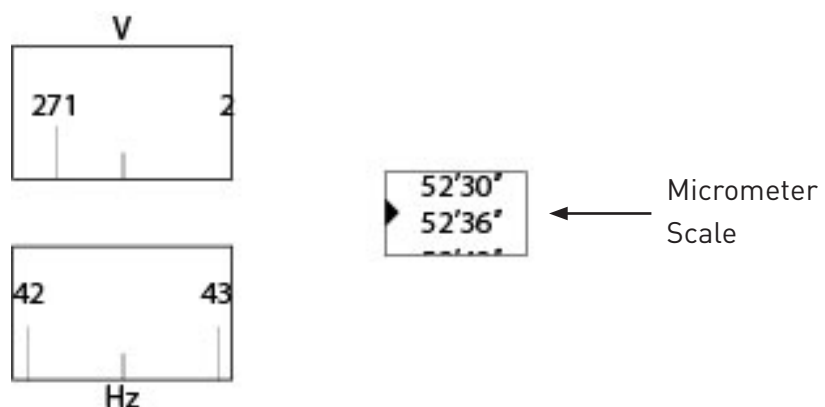

Figure 7 Example of likely position of circle graduation lines.
1. Direct the theodolite at the reference target or a null field position. After aligning in the direction of interest the circle graduation lines are unlikely to be exactly in the middle of the double line index, and will more likely resemble those displayed in Figure 7, below.